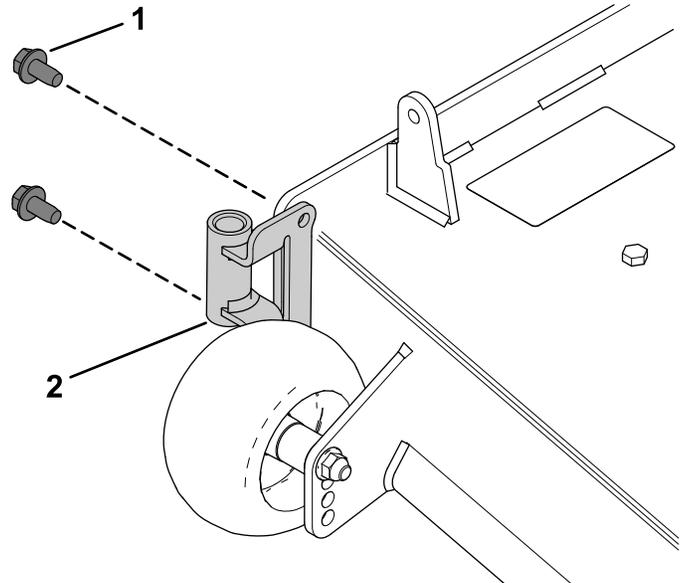

Figure 8
1. Install the blower support to the mower deck using 2 hex washer-head screws (3/8 x 3/4 inch) as shown in Figure 8.